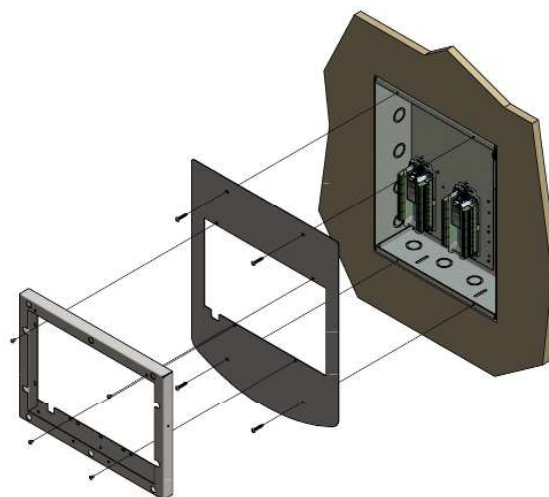

Figure 222: TotalAlert Infinity™ Single Trim Plate Installation
1. Remove the trim ring from the standard trim plate and install the corresponding trim plate from retrofit option kit (4107220616) (Figures 222 & 223). Screws are provided in the option kit for attaching the trim ring to the trim plate. TotalAlert1 Double also requires switching over the door lock set to the new trim plate.